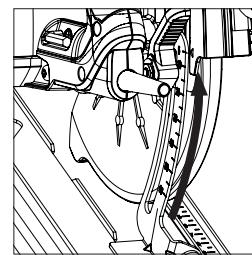

Fig. 10
(12) CUTTING DEPTH ADJUSTMENT
- Loosen the Depth Adjustment Locking Mechanism by pulling the operating lever upwards. (**Fig. 10**)